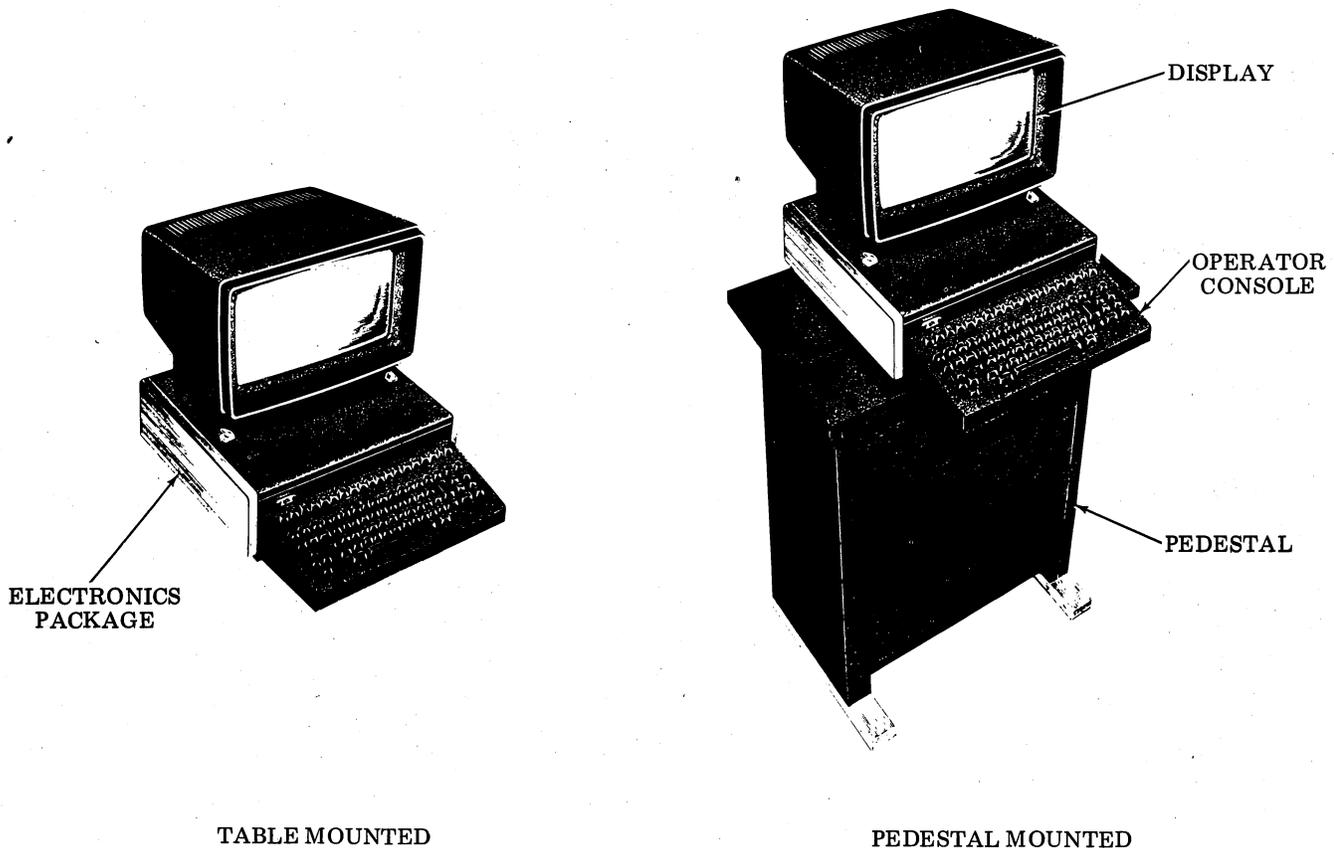
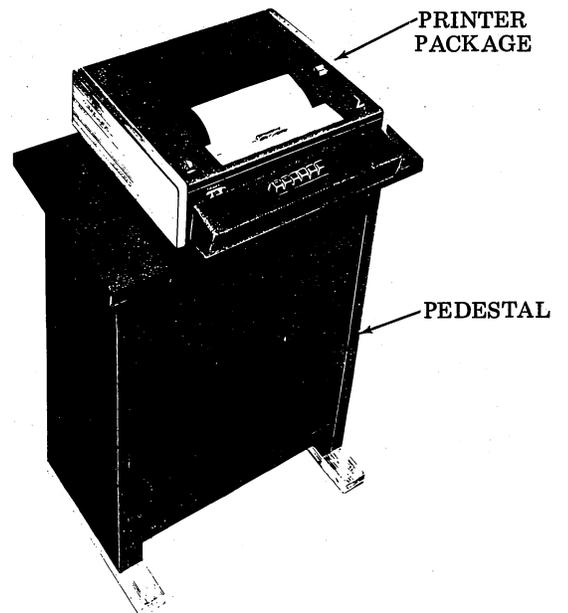

Figure 1 - DATASPEED 40 KD
Figure 4 - DATASPEED 40 ROP
2.03 The KD configuration (Figure 1) consists of a cathode ray tube display device with related logic, an operator console, and a controller. This arrangement has the capability of preparing data from the keyboard, displaying this data on the screen, editing the displayed data, and sending the displayed data on-line through a data set. Data received from the line can be displayed.
2.05 The ROP configuration (Figure 4) consists of a printer, controller, and operator console. It provides hard copy of received data. This arrangement may be ordered with an optional 1000-character buffer to compensate for difference in operating speeds of the printer and the sending device.
2.06 The modular design of DATASPEED 40 components permits a variety of station layouts. The KD and KDP can be pedestal mounted or table mounted as illustrated in Figures 1, 2, and 3. The ROP is restricted to the pedestal mounted arrangement of Figure 4.